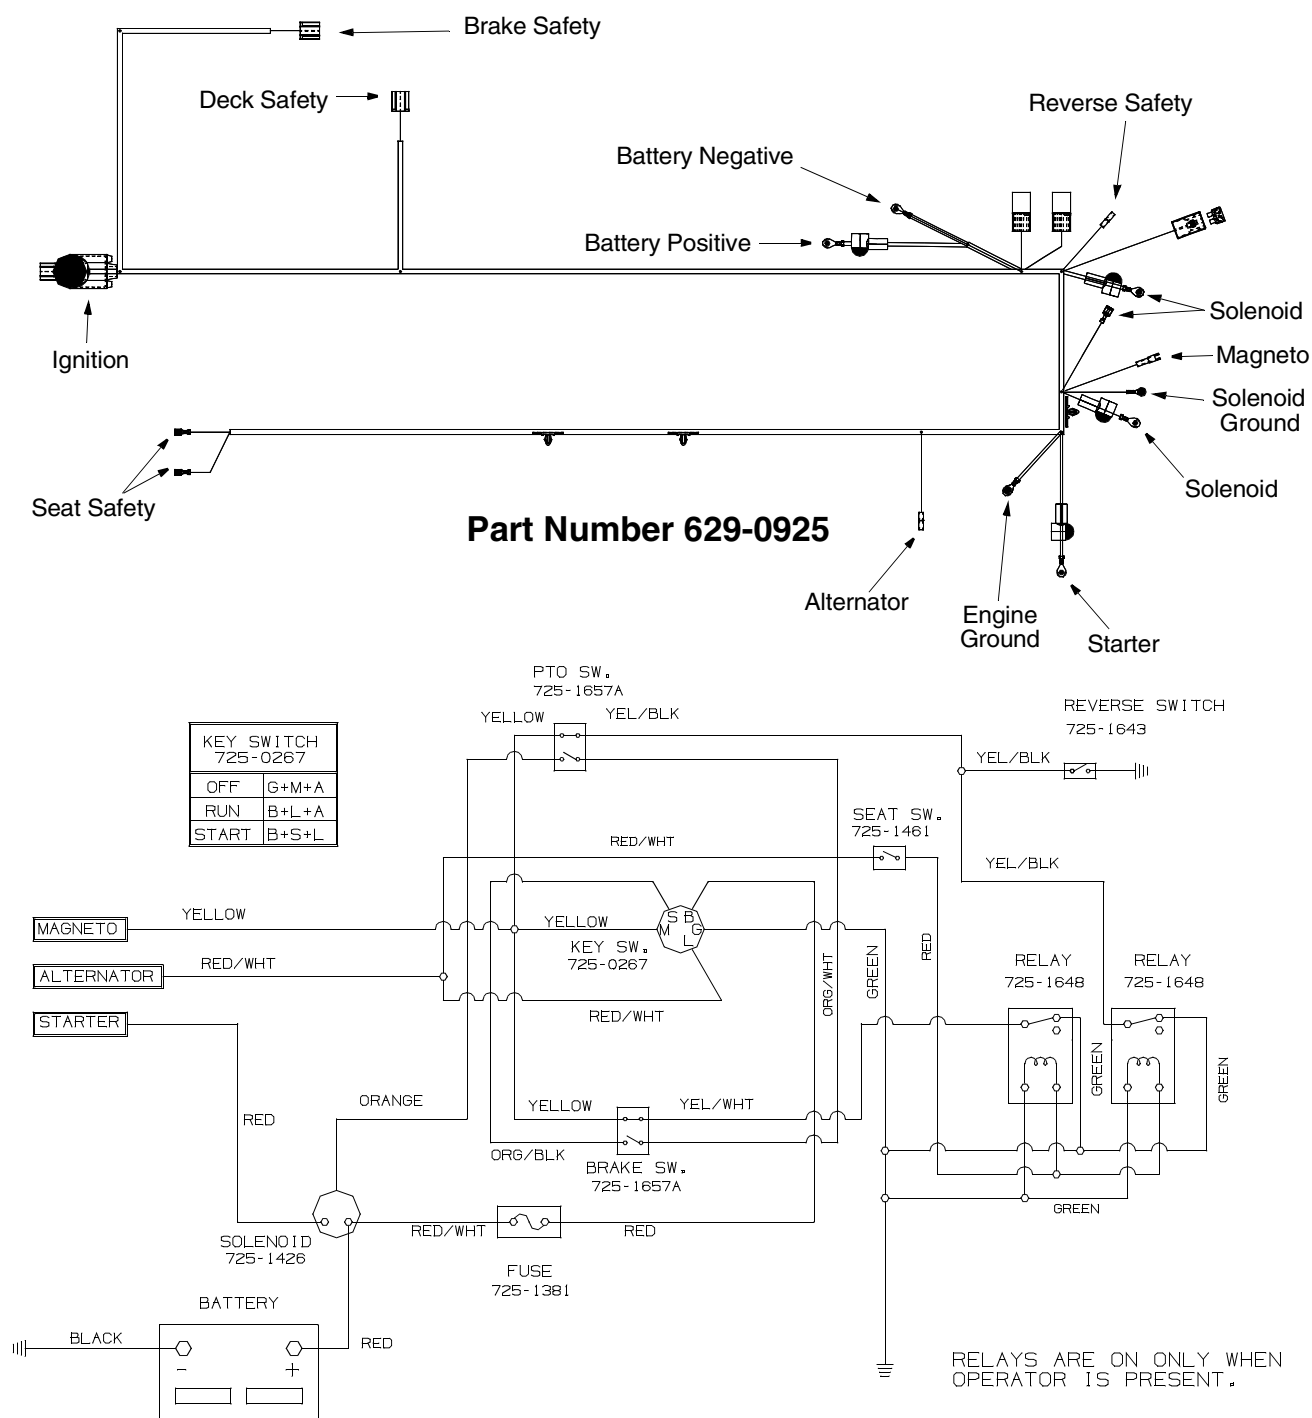

Figure 2
5. Use Figure 2 below for reference when installing this service kit.